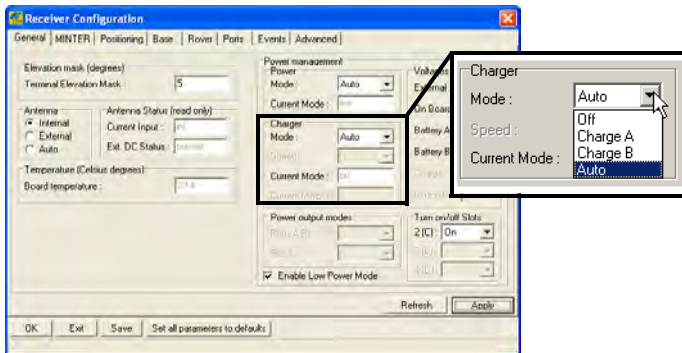

Figure 2-8. Select Charger Mode
4. Select the **Charger Mode** drop-down list to set the charger mode (Figure 2-8 on page 2-12). **Current Mode** displays the charging battery: a, b, ab, or none (off).